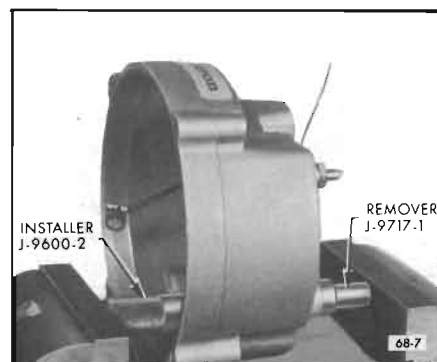

Figure 68-7—Installing a Diode
2. To install a diode, place new diode in Installer J-9600-2. Place slip ring end frame in a vise so that new diode is in position and Remover J-9717-1 supports casting. See Figure 68-7. Tighten vise to install new diode.